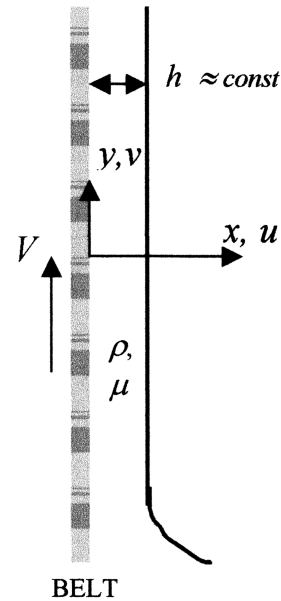

Fig. C4.2
**C4.2** A belt moves upward at velocity  $V$ , dragging a film of viscous liquid of thickness  $h$ , as in Fig. C4.2. Near the belt, the film moves upward due to no-slip. At its outer edge, the film moves downward due to gravity. Assuming that the only non-zero velocity is  $v(x)$ , with zero shear stress at the outer film edge, derive a formula for (a)  $v(x)$ ; (b) the average velocity  $V_{\text{avg}}$  in the film; and (c) the wall velocity  $V_C$  for which there is no net flow either up or down. (d) Sketch  $v(x)$  for case (c).